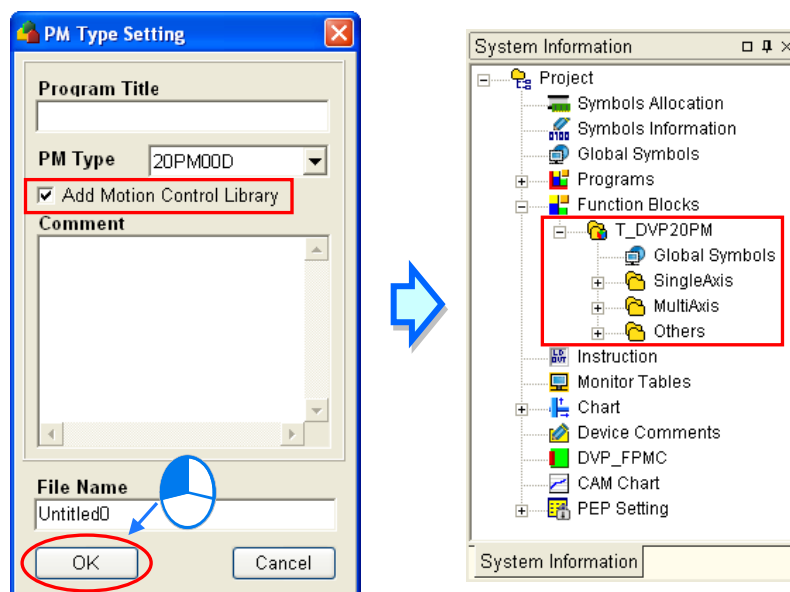

Figure 13-18 Adding motion control libraries
- (1) When users create a project, the **Add Motion Control Library** checkbox in the **PM Type Setting** window is selected by default. After the users click **OK**, all Delta libraries will be added to the **Function Blocks** section, as shown in figure 13-18.